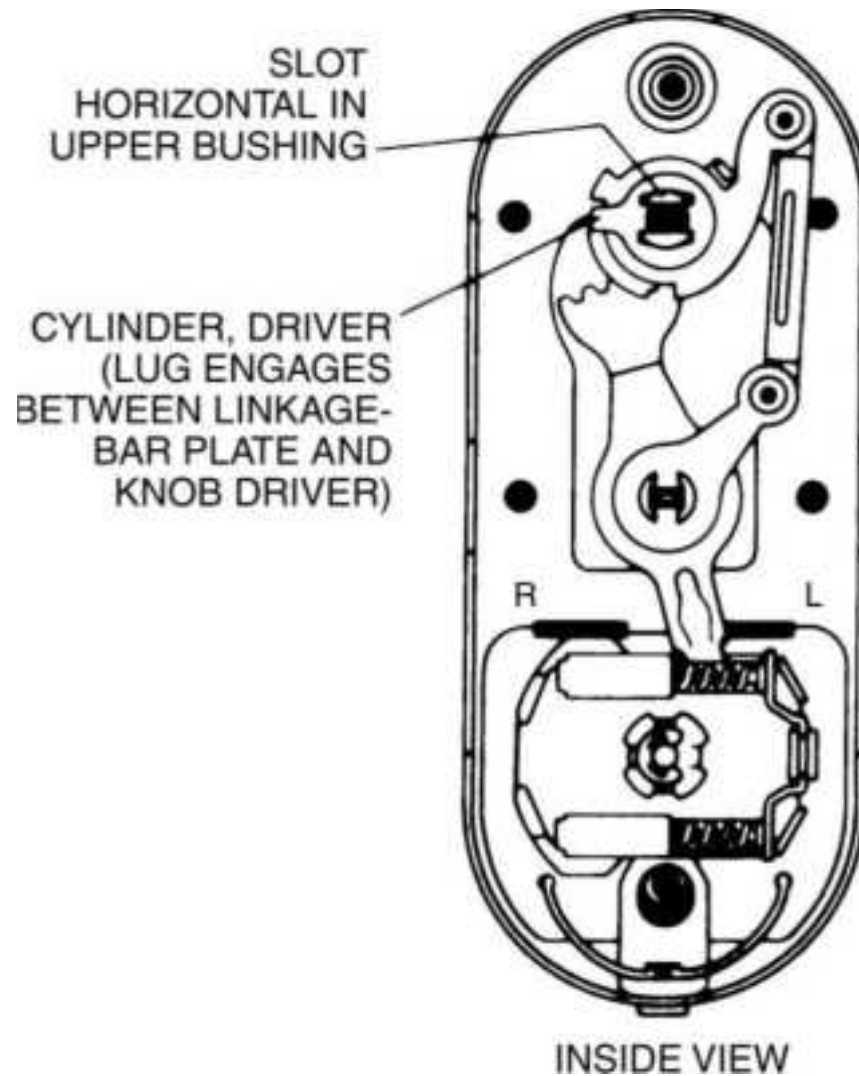

**Figure 13.86** Changing hand, Step 17.
17. With the upper bushing slot in the horizontal position, install the cylinder driver (Fig. 13.86).